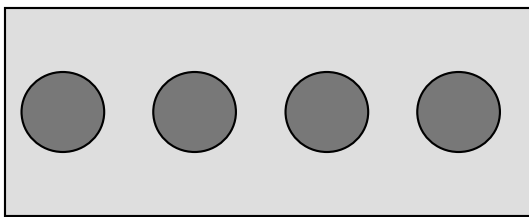
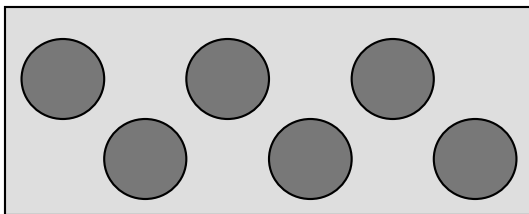

Figure 3a
Figure 3b
6.2 Prepare TDU enclosure by selecting and marking tube cable entry point locations. To best optimize TDU capacity, it is recommended to stagger tube cable entry locations if possible. **See Fig. 3a and Fig. 3b.**